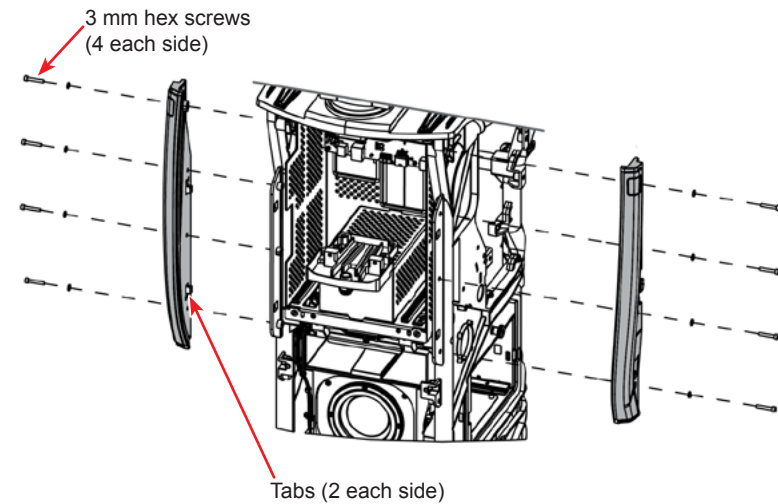

Figure 3-52 PEL Assembly Removal
- 43.3 Remove four 3 mm hex screws and washers securing PEL Assembly to chassis (see Figure 3-52).